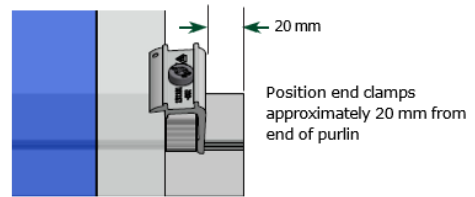

Fig 4.3.1: Positioning end clamp
- I. Position end clamps on rail approximately 20mm from end of rail, do not tighten [Fig 4.3.1].